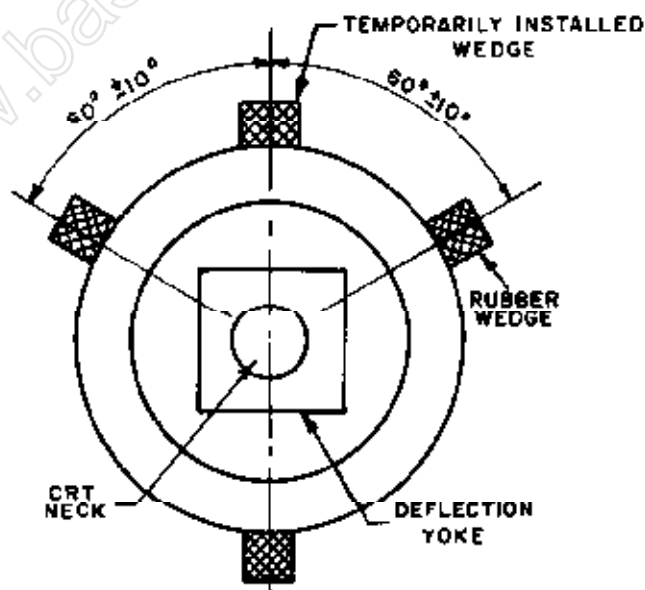

Figure 7 Proper Positioning of Rubber Wedges Under Deflection Yoke
- 4.2 Temporarily insert a rubber wedge as shown in Figure 7.
- 4.5 After you have positioned the yoke, insert three more rubber wedges in the positions shown in Figure 7. Do NOT force the permanent wedges in: insert the wedges until they just make contact with the yoke.